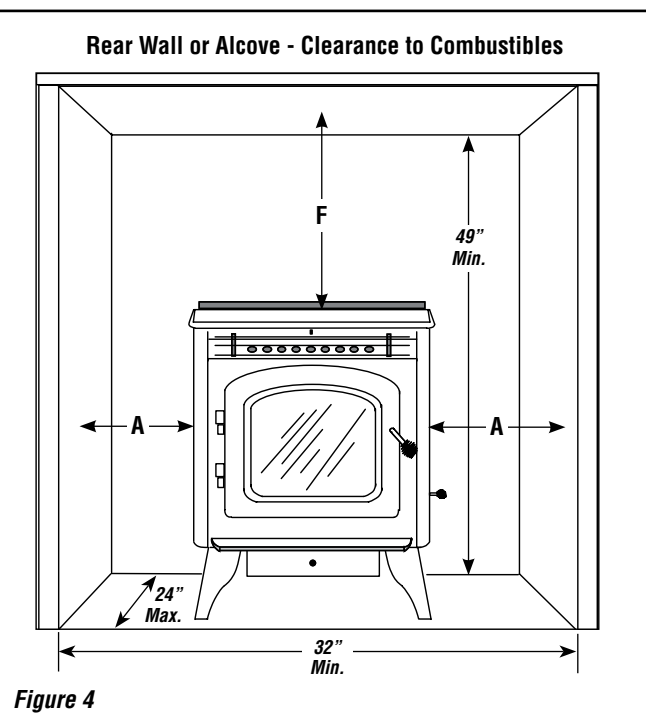

Figure 4
① - Alcove Measurements (see **Figure 4**): Height, Minimum – 49" (1245 mm), Width Minimum – 32" (813 mm), Depth Maximum – 24" (610 mm)
② See vent manufacturer to verify clearances